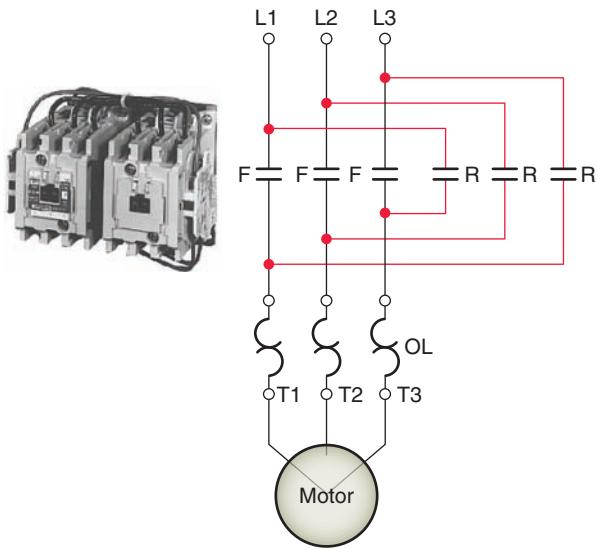

Figure 5-40 Power circuit for reversing a three-phase motor.
- Interchanging any two of the three main power lines to the motor reverses the direction of rotation. Figure 5-40 shows the power circuit for reversing a three-phase motor. The forward contacts F, when closed, connect L1, L2, and L3 to motor terminals